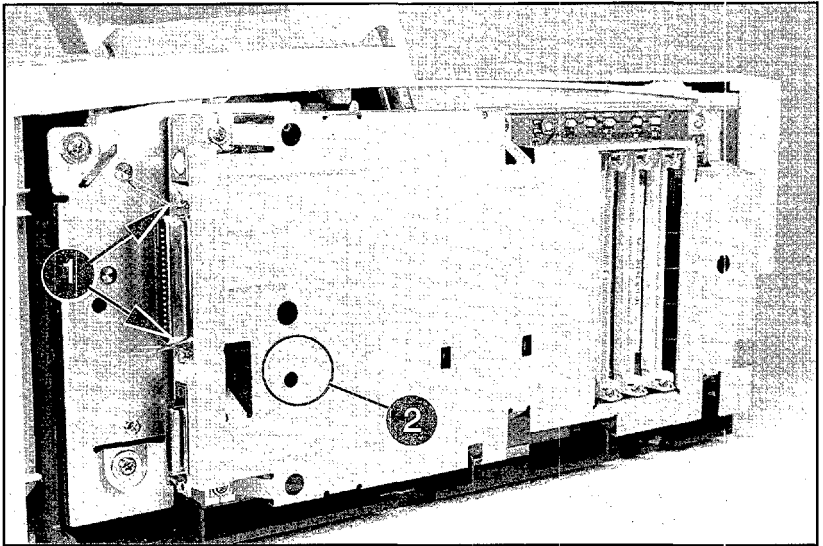

Figure 21 TORX Screw Locations.
There are two TORX screws holding the I/O connector in position (Callout 1 in Figure 21). These are the only two TORX screws in the HP LaserJet 5P printer. Note also the location of the test print button hole (Callout 2) on the side of the formatter board cover.
- 5.** To separate the formatter PCA from its shield, remove the two screws (refer to callout 1 in Figure 21).